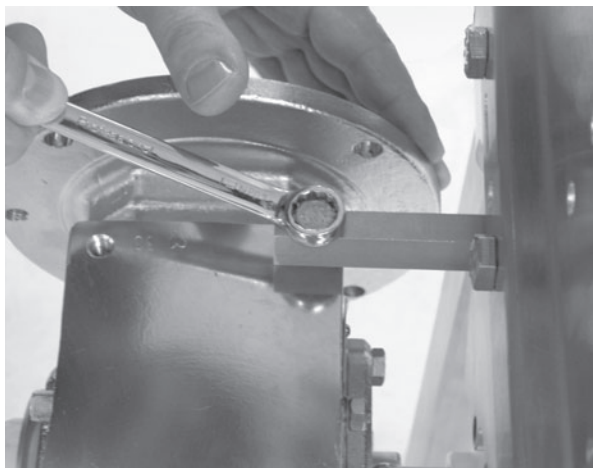

Figure 69
4. Unbolt the drive assembly and slide it off the bearing spindle (**Figure 69**).